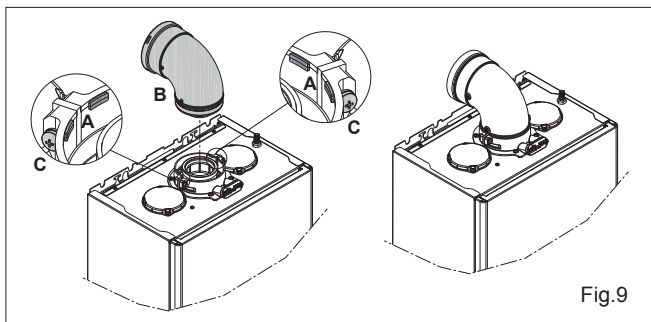
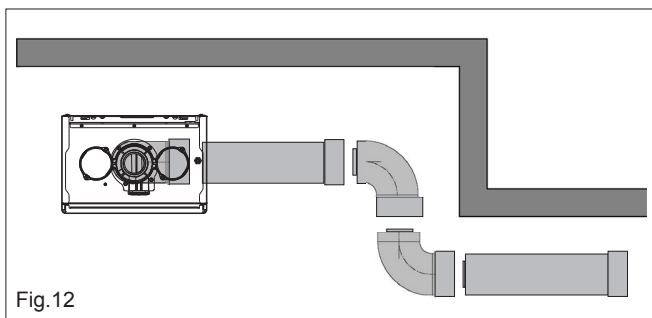

Fig.9
Fig.12
NOTE (Fig.9): The appliance incorporates a 'click-fit' flue connection. Ensure that both screws 'C' on the 'click-fit' have been slackened off. Ensure that the connector is correctly aligned with the 'click-fit' and insert it into the 'click-fit' until it clicks into position (this is when the tabs at points 'A' are located in the groove of the flue bend connector). Both screws (C) should now be tightened.
Connect the bend – supplied with the terminal kit – to the top of the boiler (see Fig. 9). The additional bends & extensions have push-fit connections, care should be taken to ensure that the correct seal is made when assembling the flue system. Connect the required number of flue extensions or bends (up to the maximum equivalent flue length) to the flue terminal (Fig.12). The flue system should have a 3° rise from the boiler to outside, to ensure any condense fluid that forms, is allowed to drain back to the appliance.
When cutting an extension to the required length, you must ensure that the excess is cut from the plain end of the extension (Fig.12). Remove any burrs, and check that all seals are located properly. You must ensure that the entire flue system is properly supported and connected. Seal the flue assembly to the wall using cement or a suitable alternative that will provide satisfactory weatherproofing. The interior and exterior trim can now be fitted.